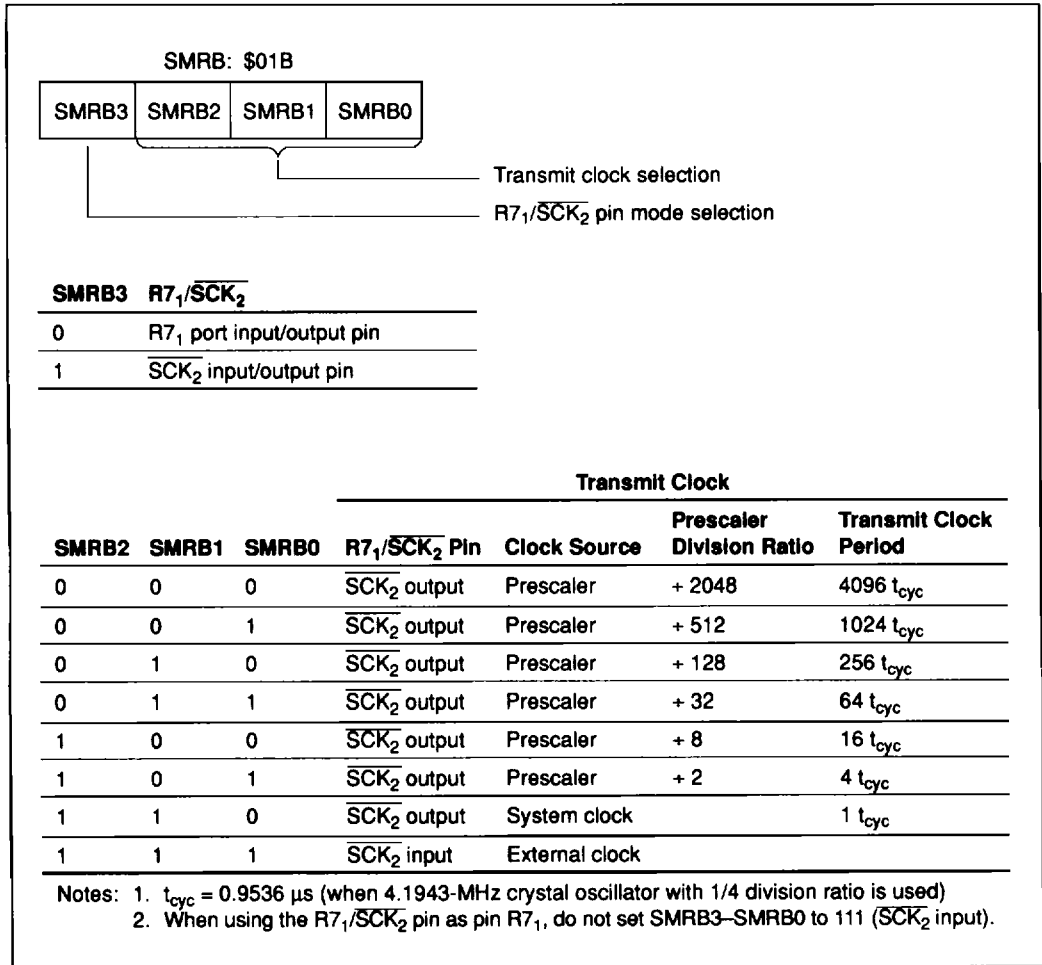

Figure 38 Serial Mode Register B
**Serial Mode Register B (SMRB: \$01B):** Four-bit write-only register which controls the  $R7_1/\overline{SCK}_2$  pin, transmit clock, and prescaler division ratio as shown in figure 38. Writing to SMRB initializes serial interface 2.